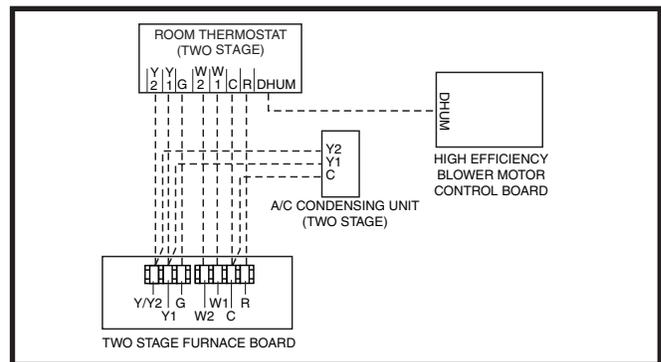

Figure 17. Wiring Configuration 3
- Proper line voltage polarity must be maintained in order for the control system to operate correctly. Verify the incoming neutral line is connected to the white wire and the incoming “hot” line is connected to the black wire. See Figure 17. The furnace will not operate unless the polarity and ground are properly connected.
This option uses the full two-stage heating capability of the furnace with a two-stage outdoor unit. See Figure 17.